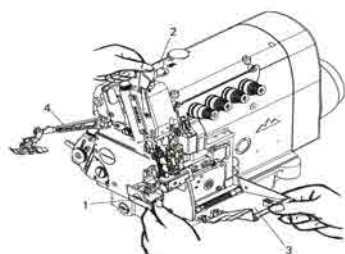

Fig. 13
1. Open cloth plate 1, eye guard 2, front cover 3, and presser bar 4. Put each part back after threading the machine (Fig.13).